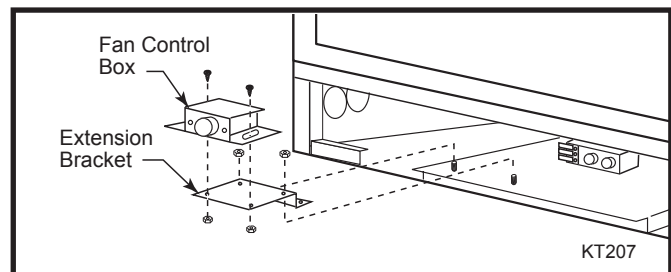

Fig. 30 Attach the control box to the bracket and install bracket into the cabinet.
- b. Attach the fan speed control box to the bracket (Fig. 30) and install the bracket into the cabinet.